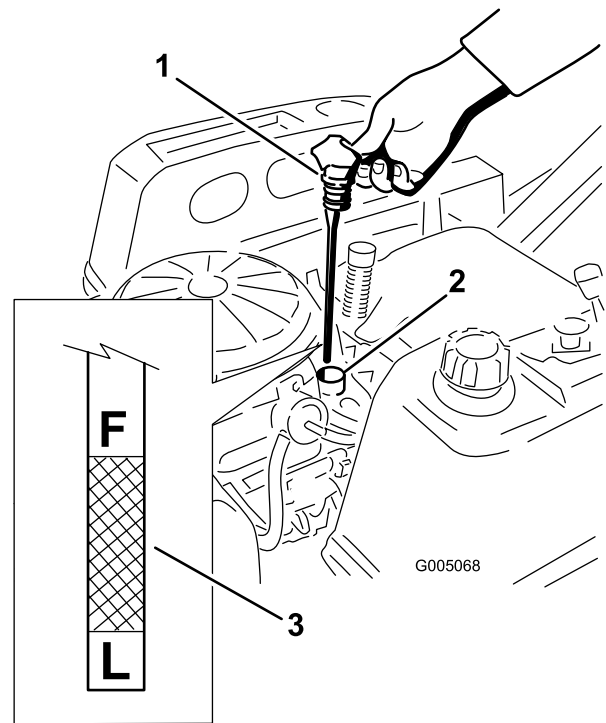
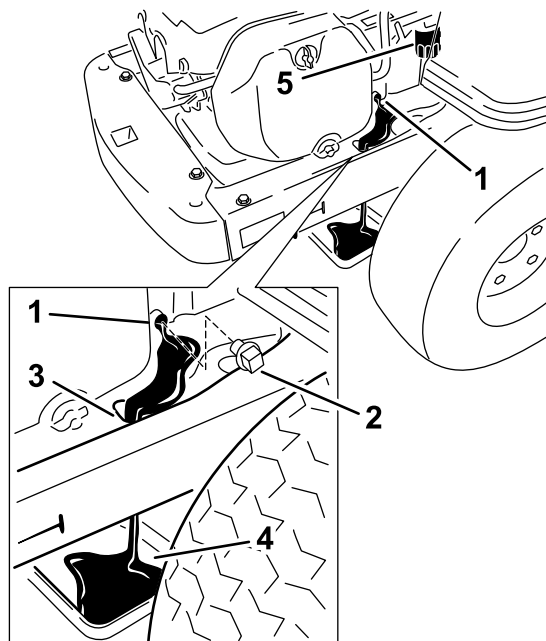

Figure 25
Figure 26
5. Remove the dipstick and check the oil level. (Figure 25).
4. Pull and remove the oil fill cap/dipstick; wipe oil off. Reinsert the dipstick and push firmly into place (Figure 25).
5. Clean the area around the drain plug and on the machine frame. Place a pan underneath machine directly below the drain hole in the frame as shown in Figure 26.
6. Remove the oil drain plug (Figure 26). Remove the oil fill cap/dipstick (Figure 25).
8. Remove the old filter and wipe off the mounting pad (Figure 26).
9. When oil has drained completely, install the oil drain plug. Tighten the plug to 14 N-m (125 in-lb) torque. Wipe up any excess oil on the frame (Figure 26).
13. Slowly pour approximately 80% of the specified oil into the filler tube (Figure 25).
14. Install the oil fill cap/dipstick and push firmly into place (Figure 25).
15. Check the oil level (Figure 25); refer to Checking the Oil Level.
17. Install the oil fill cap/dipstick and push firmly into place (Figure 25).